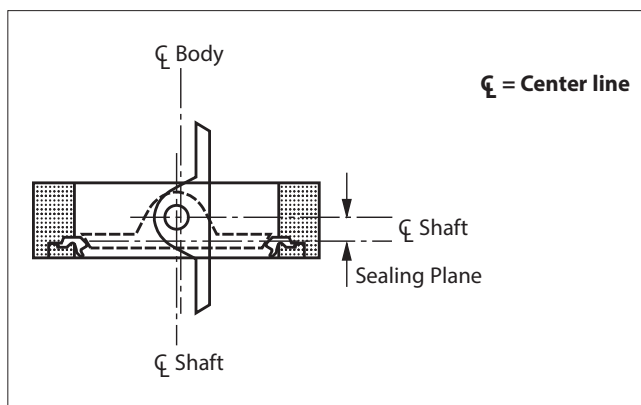

Figure 1. Offset Shaft Operation
One of the design features of the *Wafer-Sphere* valve that is responsible for its superior performance is the valve's offset shaft design. The shaft is offset in two planes: (1) away from the valve disc centerline and (2) behind the disc sealing plane. Offset shaft design makes the rotating disc "cam" back and away from the seat, completely eliminating the usual wear points at the top and bottom of the seat. Because the disc rotates off the seat in an eccentric arc, it operates in one quadrant only (See **Figure 1**).
4. Before installing a closed valve in the pipeline, be sure that the actuator is attached so that a counter-clockwise rotation, viewed from above, opens the valve (**See Figure 1**). Fully close the valve again before installing in the pipeline.